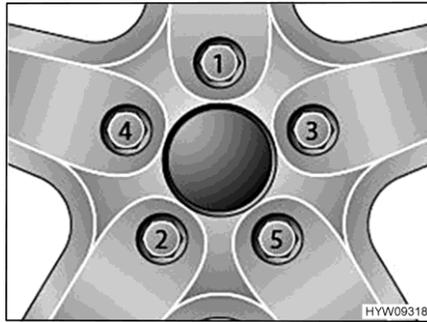

Fig. 82 Tightening the wheel nuts or wheel bolts cross-wise
- Tighten the wheel nuts or wheel bolts in the order shown in Fig. 82. In order to do this, use a torque wrench and comply with the specified tightening torque (see section 14.5).
- Check regularly that the wheel nuts or wheel bolts are firmly seated. Re-tighten the wheel nuts or wheel bolts of a changed wheel after 50 km (30 miles). While doing so, proceed in the order shown in Fig. 82.
- When using new or newly painted rims, re-tighten the wheel nuts or wheel bolts once again after approx. 1,000 to 5000 km (600 miles to 3,000 miles). While doing so, proceed in the order shown in Fig. 82.